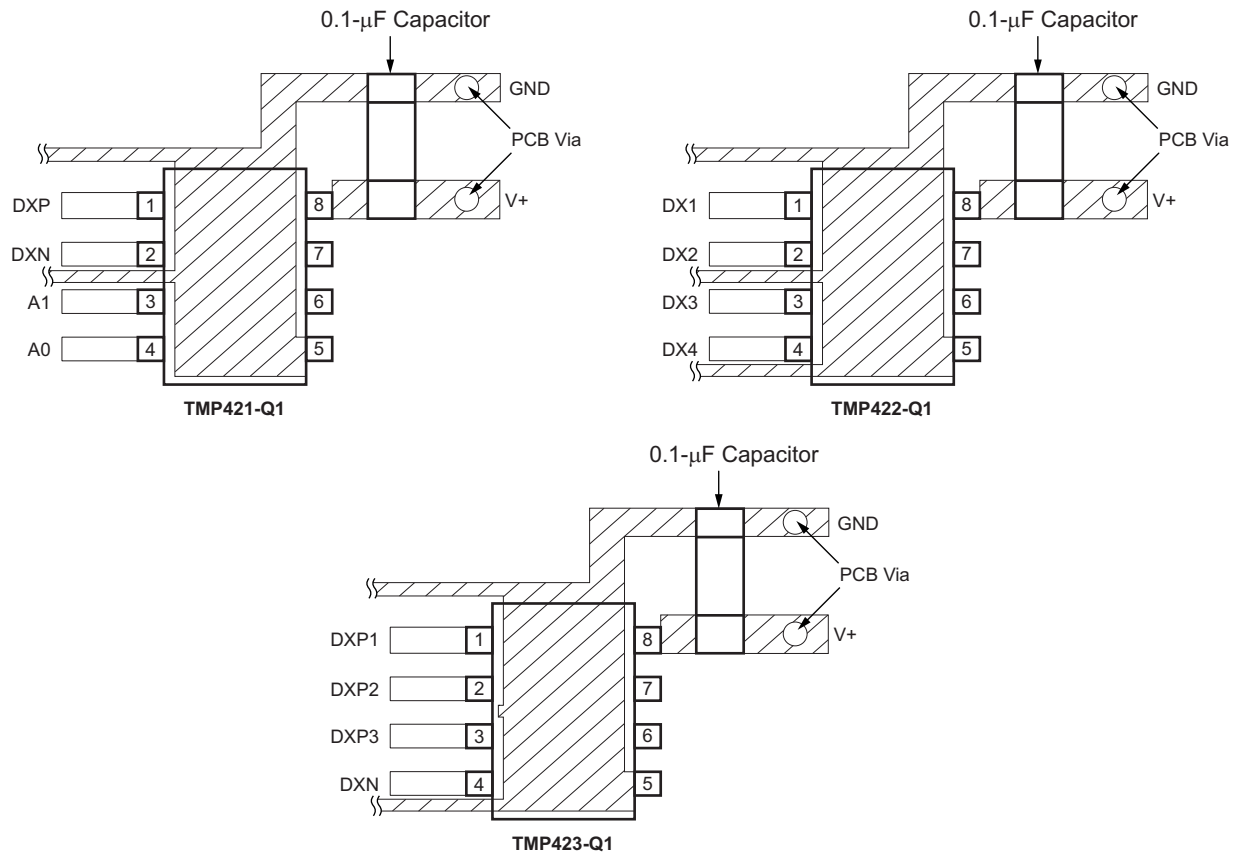

Figure 24. Suggested Bypass Capacitor Placement and Trace Shielding
4. Use a 0.1- μ F local bypass capacitor directly between the V+ and GND of the TMP421-Q1, TMP422-Q1, and TMP423-Q1; see Figure 24. Minimize filter capacitance between DXP and DXN to 1000 pF or less for optimum measurement performance. This capacitance includes any cable capacitance between the remote temperature sensor and the TMP421-Q1, TMP422-Q1, and TMP423-Q1.